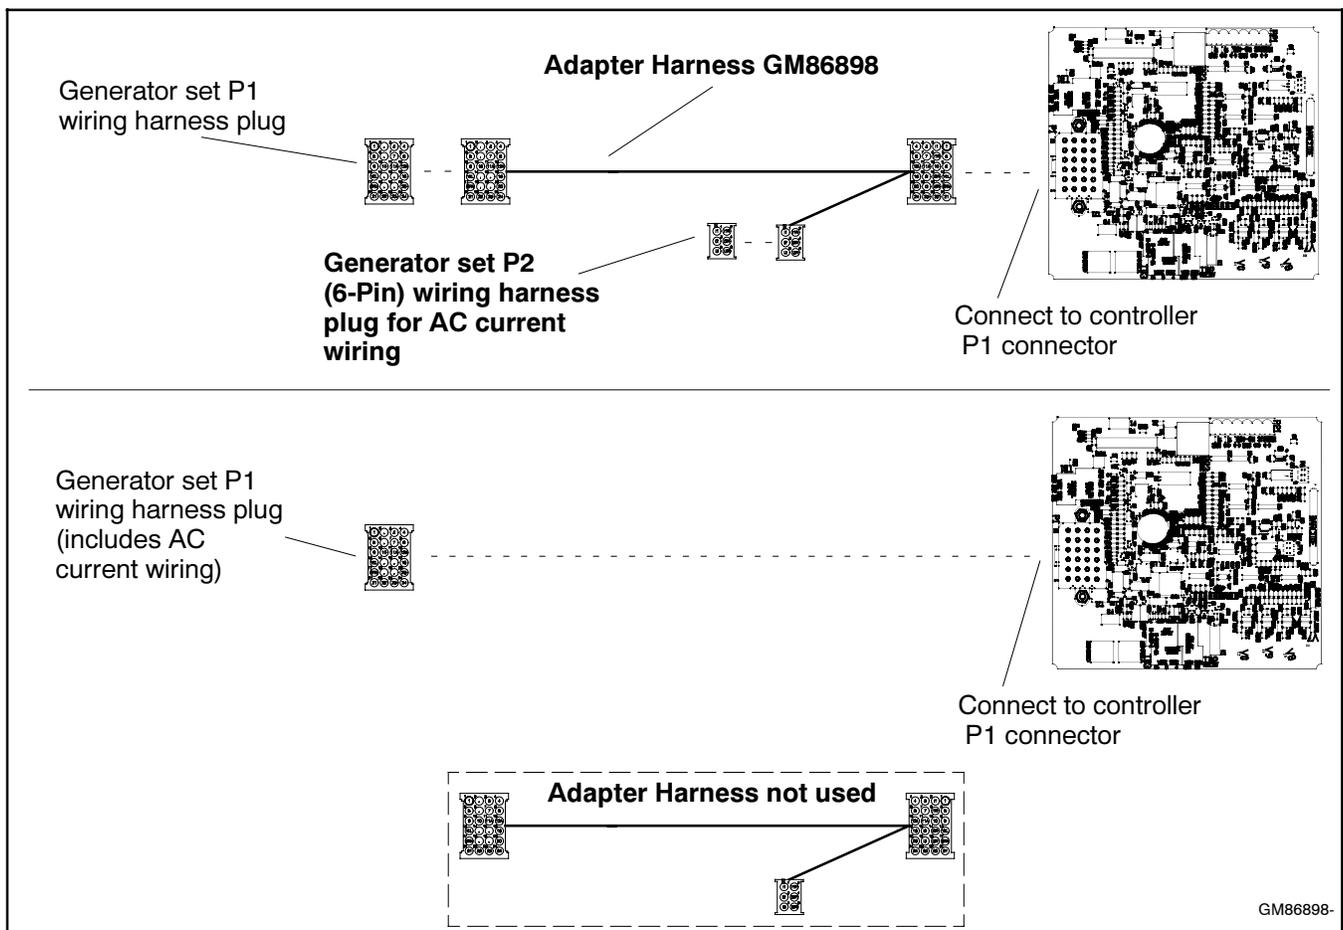

Figure 6 Adapter Harness GM86898 Application
4.1 If the generator set wiring includes a P2 plug, connect the P1 and P2 plugs into adapter harness GM86898 and then connect the adapter harness plug to the controller P1 connector. See Figure 6.